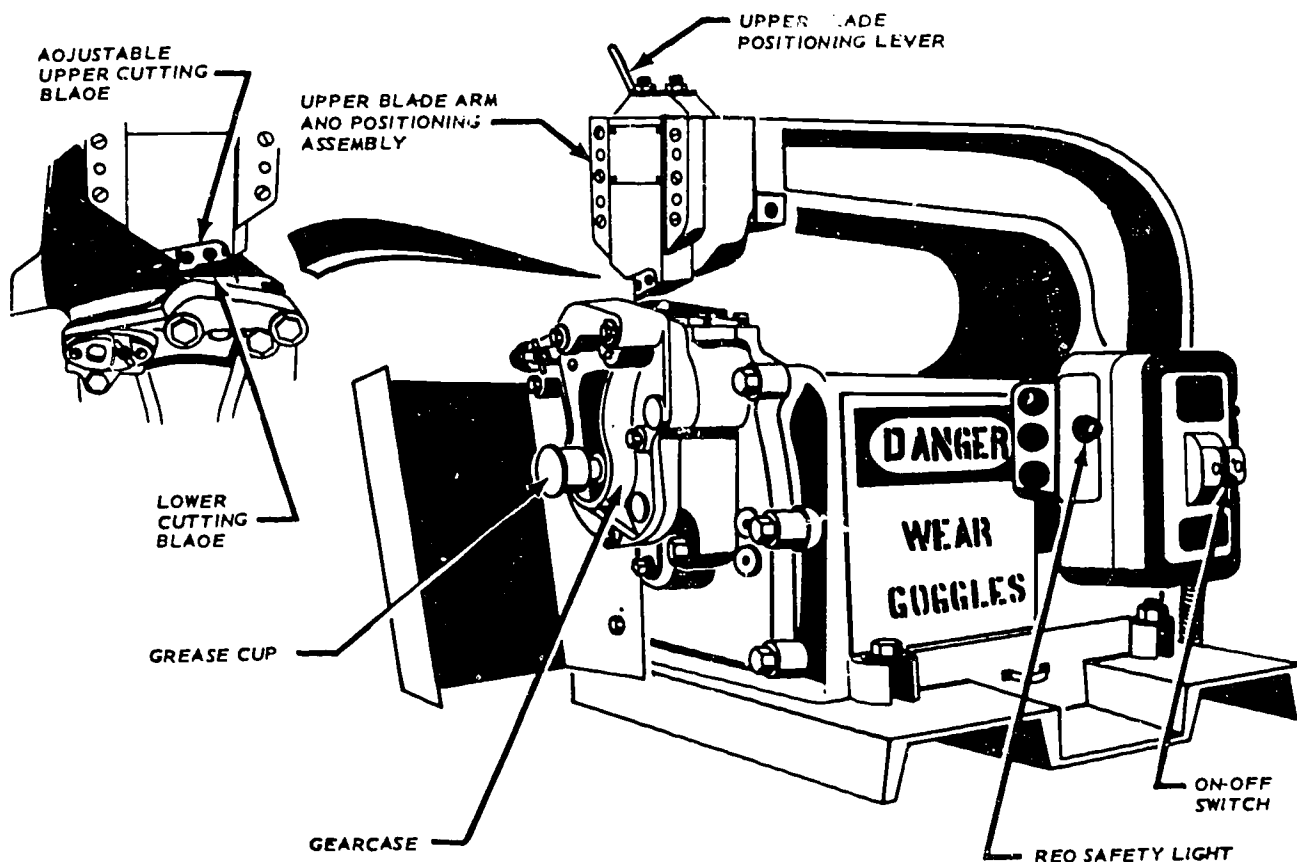

Figure 1-9. Stationary unishears.
**Unishears.** You will find unishears useful equipment in the sheet metal shop. Figures 1-9 and 1-10 illustrate two types—stationary and portable. Both are designed to cut along irregular lines on sheet metal and will save you much time since they cut faster than hand snips or shears.
The *stationary unishears*, illustrated in figure 1-9, are powered by an electric motor which moves the lower cutting blade up and down to cut sheet metal as it is guided through the blades. It is possible to make straight or irregular cuts through sheet metal as heavy as 16 gage. The upper cutting blade does not reciprocate during cutting; however, the upper blade positioning assembly can be raised with the upper blade positioning lever when it is necessary to open the throat of the shears to make inside cuts. The blade is lowered before the machine is operated. The cutting blades are adjusted for clearance when new blades are installed; therefore, they do not need readjustment, in most cases, for different gages of sheet metal. A red safety light located near the on-off switch is